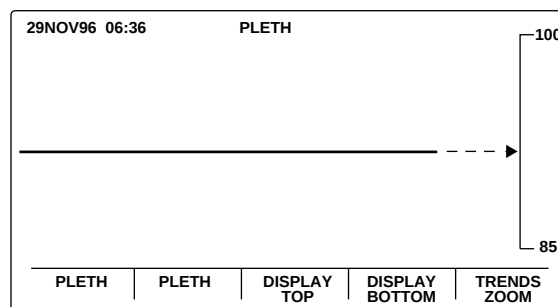

Figure 3-10: Pleth Waveform
7. Verify that a pleth waveform screen appears, similar to the one illustrated in Figure 3-10. The N-3000 SpO2 alarm limits on the right-hand side of the screen will equal the current limits as determined by the N-3000 setting.